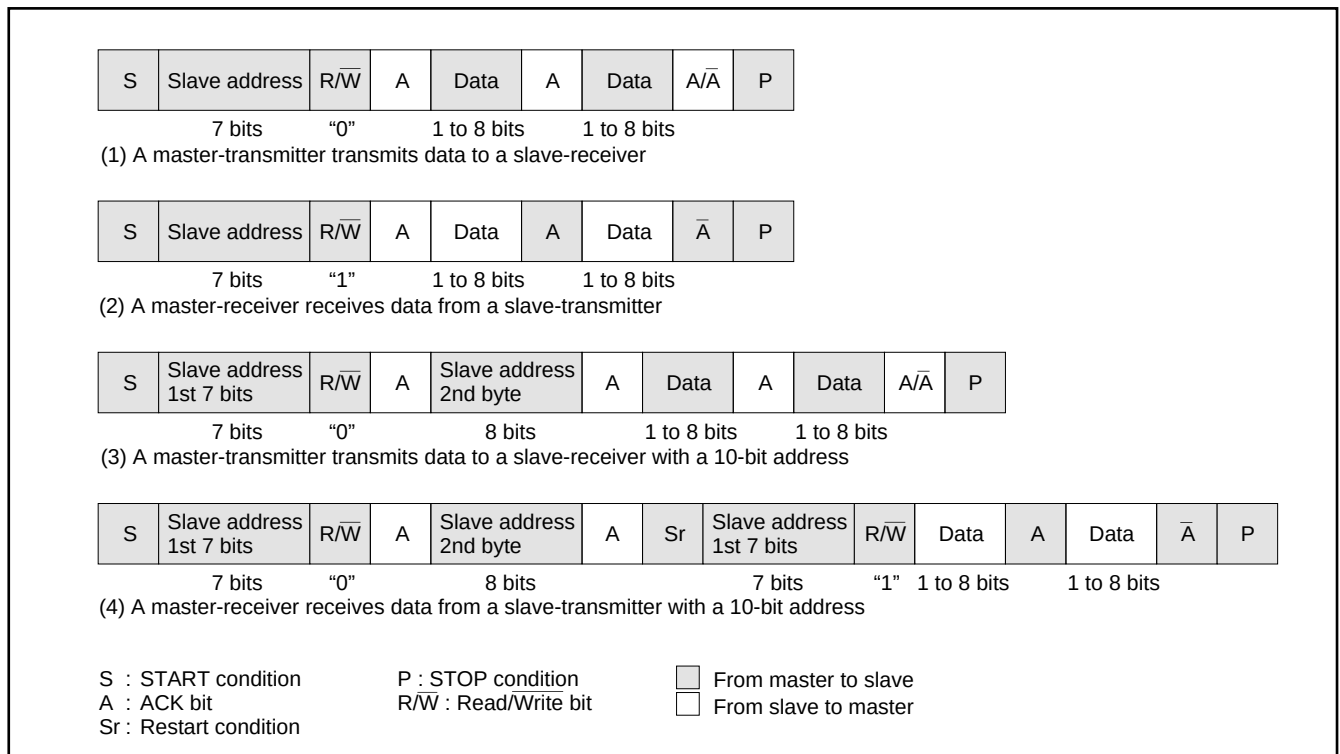

Fig. 22. Address data communication format
① 7-bit addressing format
To meet the 7-bit addressing format, set the 10BIT SAD bit of the I²C control register (address 00DA16) to "0." The first 7-bit address data transmitted from the master is compared with the high-order 7-bit slave address stored in the I²C address register (address 00D816). At the time of this comparison, address comparison of the RBW bit of the I²C address register (address 00D816) is not made. For the data transmission format when the 7-bit addressing format is selected, refer to Figure 22, (1) and (2).
② 10-bit addressing format
When the first-byte address data matches the slave address, the AAS bit of the I²C status register (address 00D9₁₆) is set to "1." After the second-byte address data is stored into the I²C data shift register (address 00D7₁₆), make an address comparison between the second-byte data and the slave address by software. When the address data of the 2nd byte matches the slave address, set the RBW bit of the I²C address register (address 00D8₁₆) to "1" by software. This processing can match the 7-bit slave address and R/W data, which are received after a RESTART condition is detected, with the value of the I²C address register (address 00D8₁₆). For the data transmission format when the 10-bit addressing format is selected, refer to Figure 22, (3) and (4).
(10) Example of Master Transmission